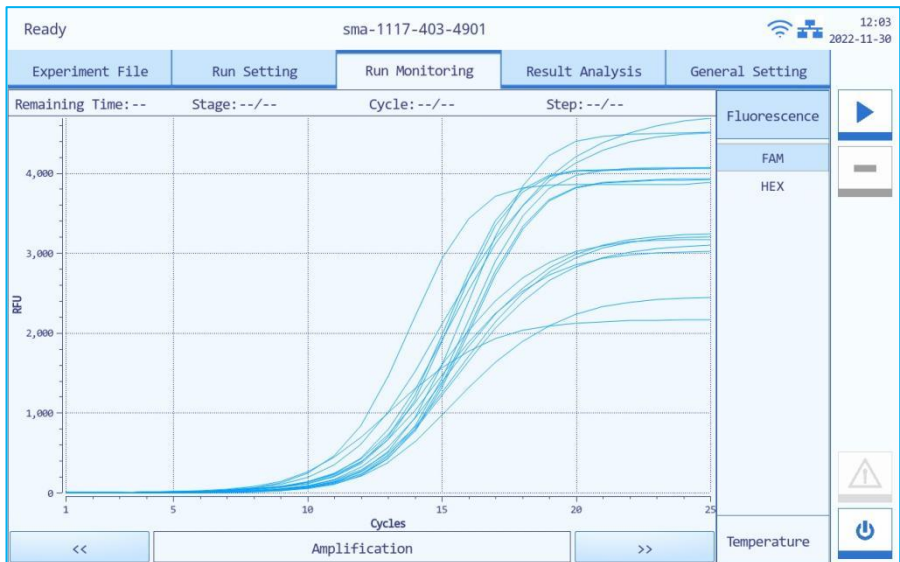

Figure F-3.1 Run Monitoring Diagram - Real-time Amplification Curve
- a. **Amplification:** The run monitoring diagram will display the real-time **Amplification** curve of the current experiment by default, as shown in figure F-3.1.